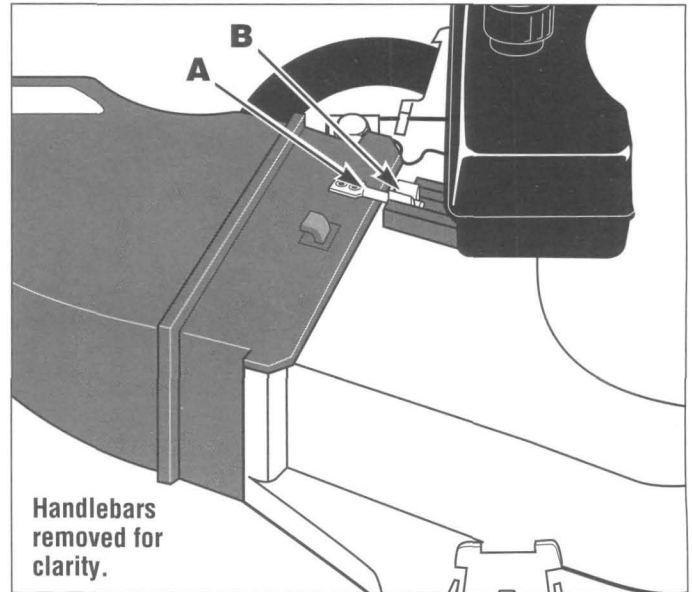

Figure 4: Safety Interlock System (shown with blower deflector chute).
Your machine is equipped with a Safety Interlock System (see Figure 4) which prevents the engine from starting unless the collection bag or blower deflector is installed. The rod (A in Figure 4) must be positioned as shown in the slot (B) in order to start the engine.